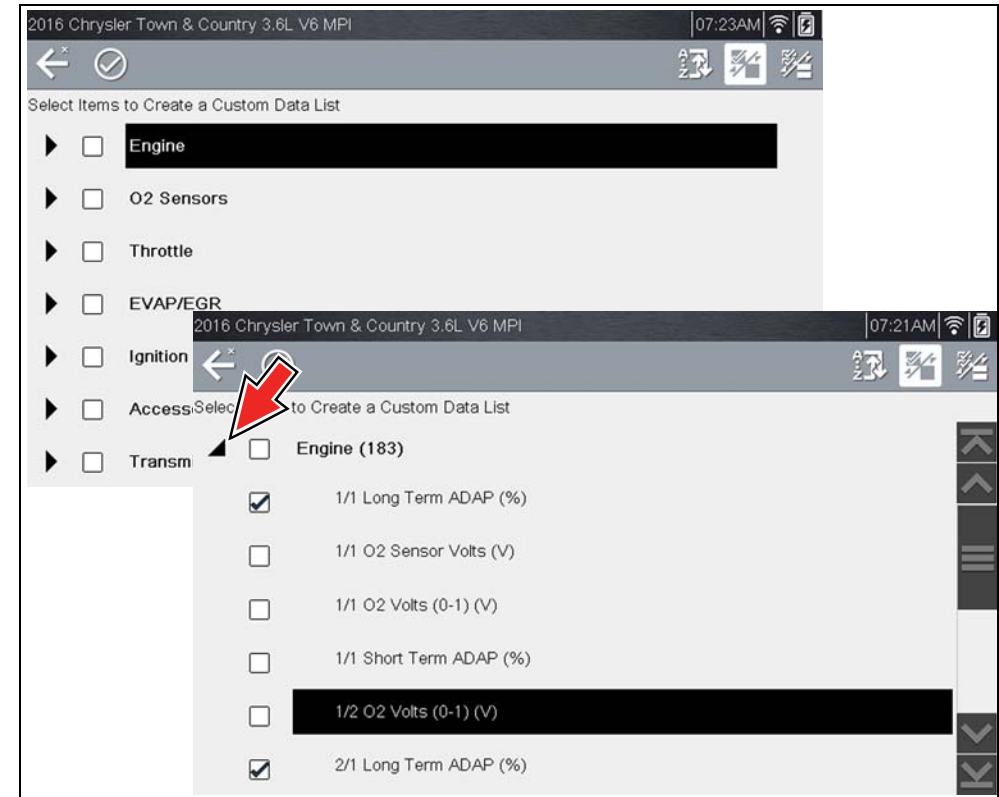

Figure 5-17
2. The data selection screen displays (Figure 5-17). Each list item is expandable, by selecting its Expand icon (Figure 5-17). You can expand any item from the list and select which PIDs you want to include, and then collapse the list and choose another if desired. The check marks to the left of the parameter description indicate which parameters are selected for display.